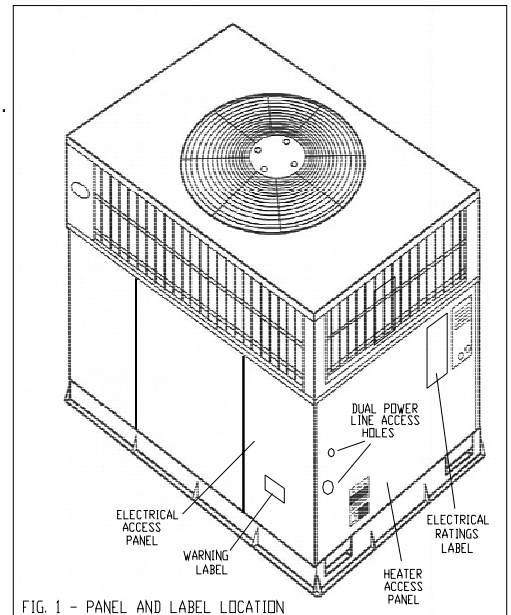

FIG. 1 - PANEL AND LABEL LOCATION
3. Remove access panel to heater compartment (See Fig. 1.)
8. Remove electrical access panel (see fig.1) and inspect for sufficient clearance to punch a second power circuit above the existing high voltage knockout. Use a knock out punch to make a 7/8-in hole.
9. Attach Warning label and electric heater dual point connection installer label to equipment (see fig. 1).
5. Insert second field power line through the electrical heater access panel top hole (see fig. 1) and connect to unit contactor black and yellow leads using wire nuts.